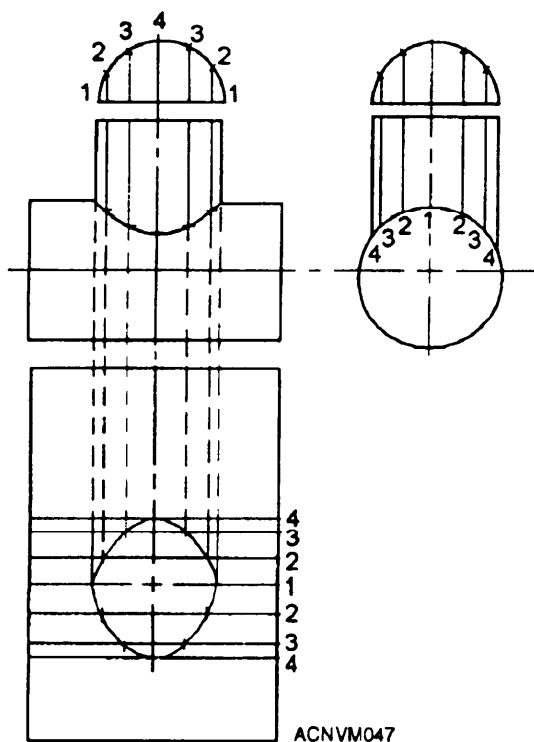

Figure 12-47.—Stretchout of the main pipe in the T-joint.
11. Now, using the circumference and length of the main pipe for dimensions, draw the stretchout for the main pipe as shown in figure 12-47.